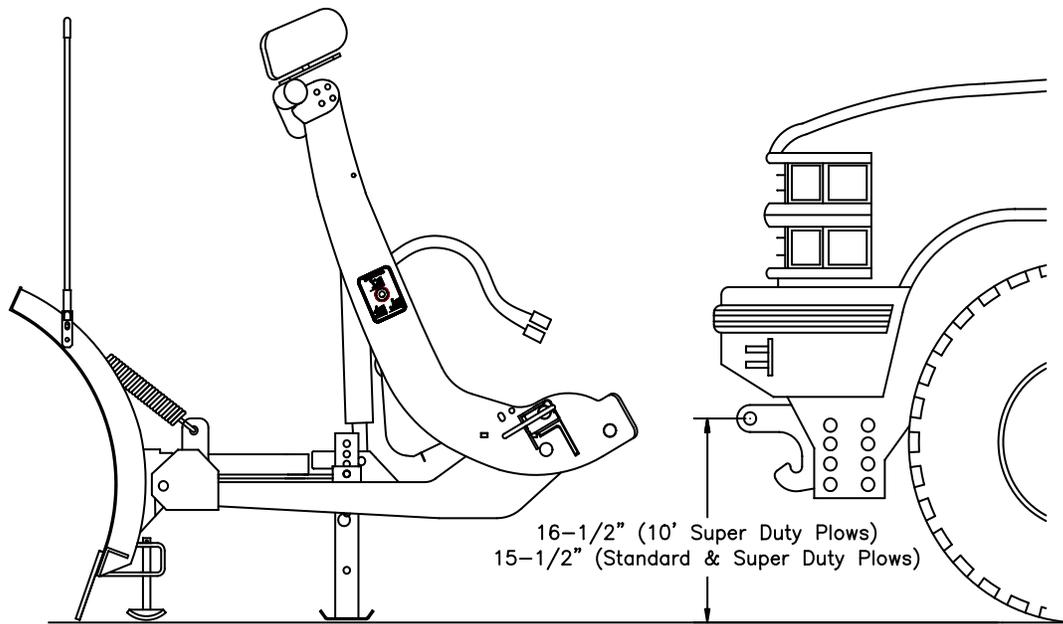

Figure 4
2. Position PUSH BEAM SUPPORT PLATES (62A & 62B) to the front frame rails directly behind the bumper mounting brackets. Using ½" – 13 x 1-1/4" Carriage Bolts (D) and ½" – 13 Self-Locking Nuts (B) bolt PUSH BEAM SUPPORT PLATES (62A & 62B) in place.
3. Bolt UPPER SUPPORT BRACKETS (62C & 62D) to the top two holes of PUSH BEAM SUPPORT PLATES (62A & 62B) using ½" - 13 x 1½" Hex Head Bolts (A) and ½" – 13 Self-Locking Nuts (B). Transfer punch the two lower holes on PUSH BEAM SUPPORT PLATES (62A & 62B) and UPPER SUPPORT BRACKETS (62C & 62D) and drill 9/16" diameter holes into the frame rail. Secure with ½" - 13 x 1½" Hex Head Bolts (A) and ½" – 13 Self-Locking Nuts (B).
4. Bolt PUSH BEAM (62) in place using ½" - 13 x 1½" Hex Head Bolts (A), ½" - 13 x 2" Hex Head Bolts (C) and ½" – 13 Self-Locking Nuts (B) provided (a total of 8 nuts and bolts per end). The 2" bolts are for the back of PUSH BEAM (62) where the bolt must also pass through ANGLE BRACKETS (75A & 75B). NOTE: the proper height adjustment for PUSH BEAM (62) is approximately 16-½" from the ground to
the center of the PUSH BEAM (62) pin-receiving hole (see Fig. 4).